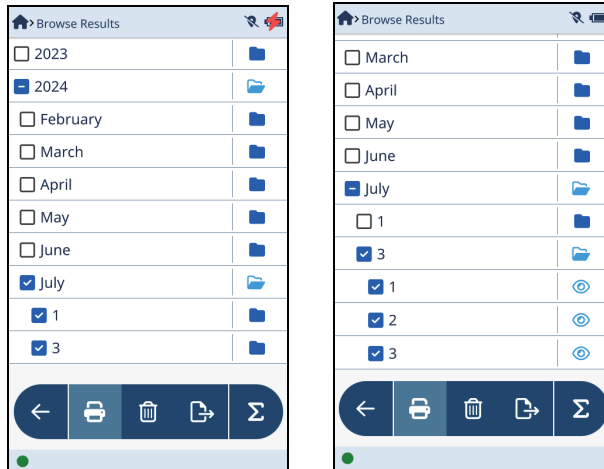

Figure 2-41 Browse Results: Day view (left), data view (right)
4. Tap a day to display a list of test results for that day (see Figure 2-41 on page 55 [left]).
5. Tap a test result to view the data (see Figure 2-41 on page 55 [right]).